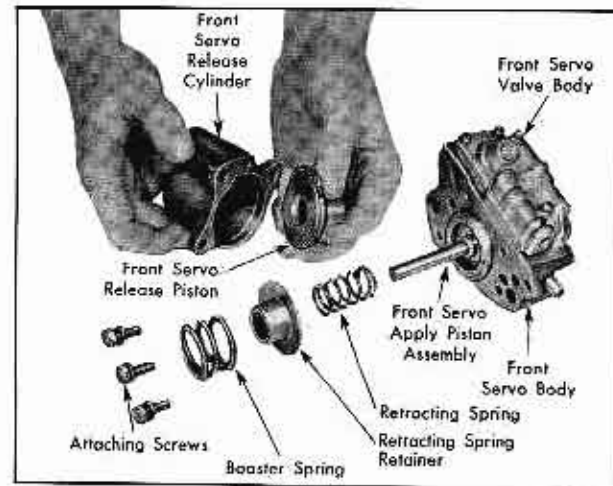

Fig. 14-57 Removing Front Servo Release Piston
8. Remove front servo release piston from release cylinder, Fig. 14-57.